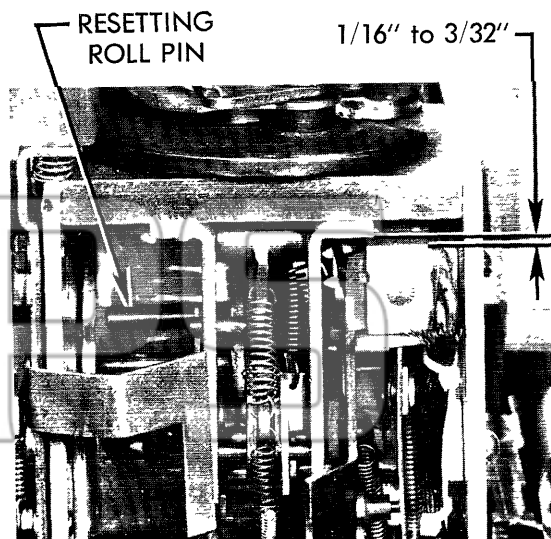

Fig. 5. View showing resetting roll pin
5. Install the mounting screws (two) through the slots in the mechanism frame and into the tapped holes in the frame of the undervoltage release device. Position the unit to provide 1/16-inch to 3/32-inch gap, as shown in Fig. 5, and torque the screws to 15 inch-pounds.